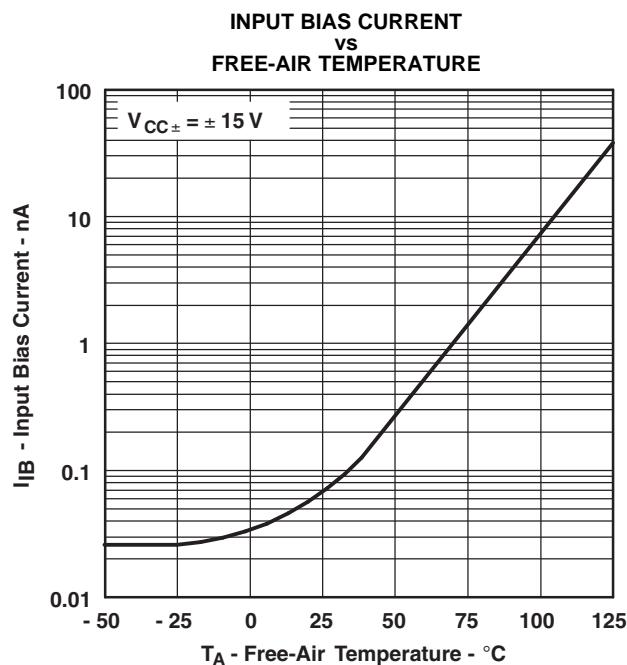

Figure 14.
(1) All characteristics are measured under open-loop conditions with zero common-mode voltage, unless otherwise specified.
(2) Full range for T_A is -40°C to 85°C for I-suffix devices and -40°C to 125°C for Q-suffix devices.
(3) Input bias currents of an FET-input operational amplifier are normal junction reverse currents, which are temperature sensitive, as shown in Figure 14. Pulse techniques must be used that maintain the junction temperature as close to the ambient temperature as possible.